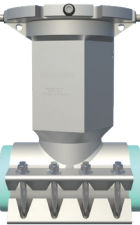
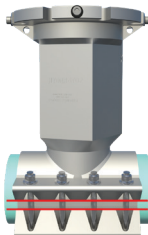

Figure 3
Figure 4
D.8) Install stainless steel carriage bolts, washers, and nuts (see Figure 3). Finger tighten nuts, ensuring gaps between top half and bottom half of the valve body are the same front to back and side to side within 1/8" (see Figure 4).